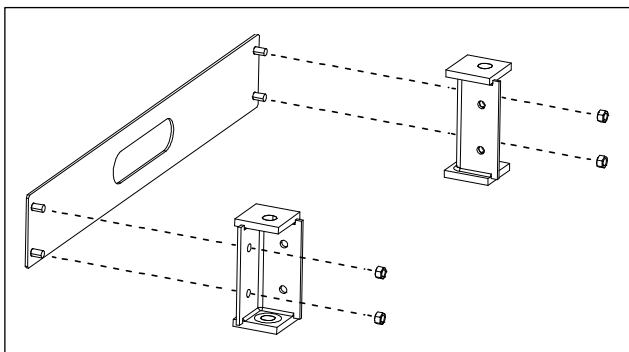

Figure 7
3. Take two corner brackets and one long plate. Attach them as shown in Figure 7. Note the orientation of the corner brackets.